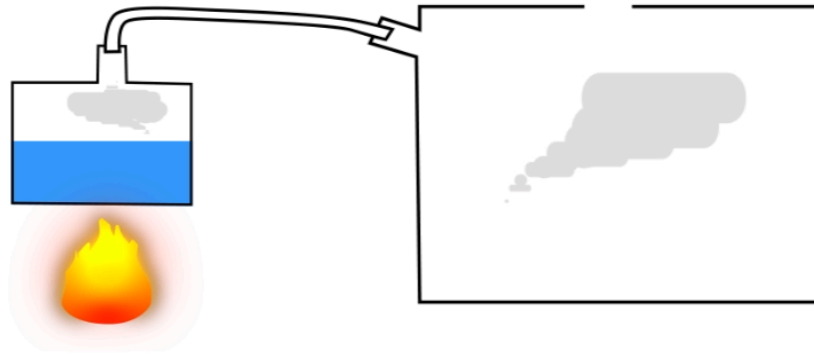

Fig. 27 Removing fuel vapors
- **Remove any fuel vapors and fumes** (especially if it is a gasoline/petrol tank); to do so, you can boil some water in a separate recipient and administer the vapor from that recipient into the tank so it could “push” the fuel vapors and fumes out; be sure to keep the fire used to boil the water far enough from the fuel tank (**Fig. 27**)